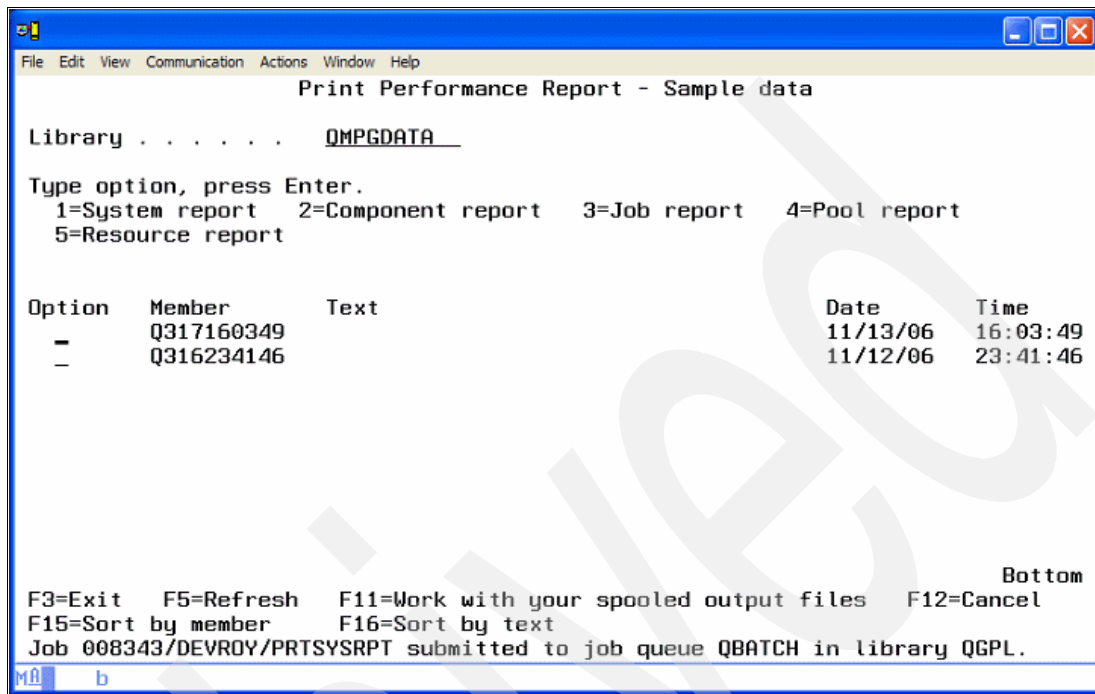

Figure A-27 Submitted job information
- The report generation request is submitted to batch. You return to the Print Performance Report panel, which shows the information about the job that was submitted (see Figure A-27).